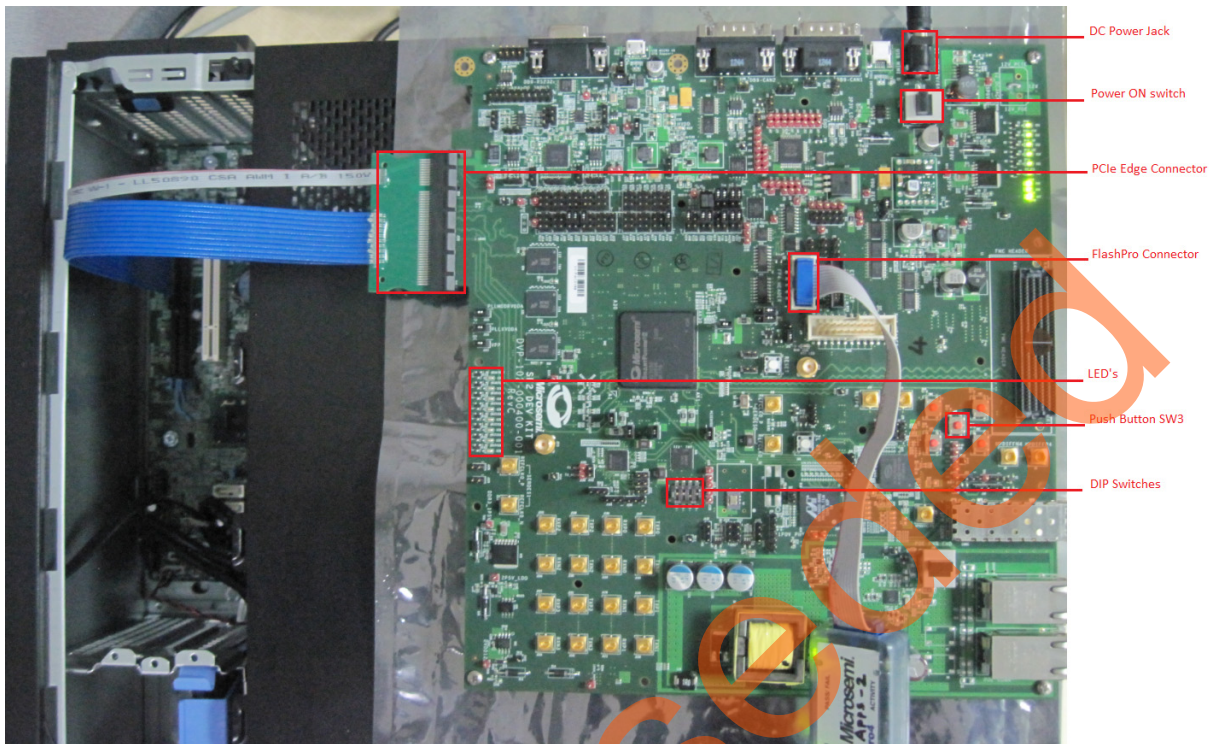

Figure 54 • SmartFusion2 Development Kit Setup
8. The board setup is shown in Figure 54.